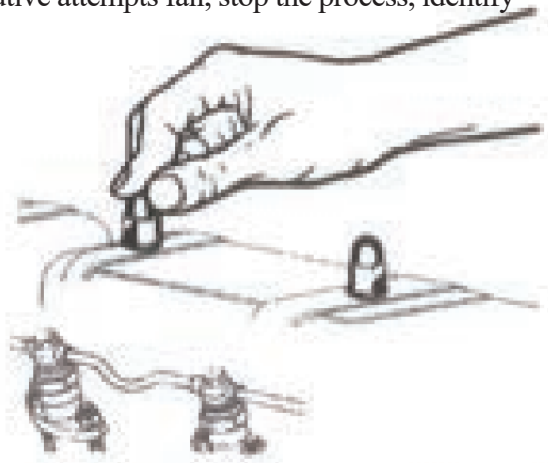

Figure 2-2 Check the working condition of the valve train
① Disconnect the diesel engine from the load linkage device.
② Push the injection pump speed regulator control handle to the no-load position with a speed of about 700r/min.
③ Turn the key to the "Right" position (for 12-cylinder V-type diesel engines), then press the start button to activate the engine. If it fails to start within 12 seconds, immediately release the button and attempt a second start after 2 minutes. Should three consecutive attempts fail, stop the process, identify the cause, resolve the issue, and restart the engine.
④ After successfully starting the diesel engine, immediately release the button and rotate the key to the center position (for 12-cylinder V-type engines, turn it to the "left" position to activate the charging circuit). Monitor the oil pressure gauge to ensure it reads above 0.05kPa (0.5kgf/cm²) within 15 seconds after startup (when engine speed reaches 500r/min). Then let the engine idle at approximately 750r/min for 3-5 minutes to check all components. You may inspect the valve train's moving parts by touching them with your fingers (as shown in Figure 2-2), or open the cylinder head cover to observe the rocker arms' lubrication status. Only after confirming these checks can you proceed with acceleration or load operation.